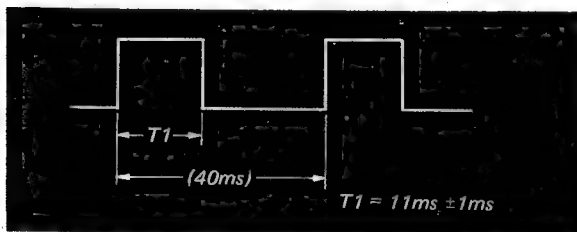

Fig. 7-1. Countdown multivibrator setting
2. Adjust R125 so that pulse width is 11 ± 1 msec. See Fig. 7-1.